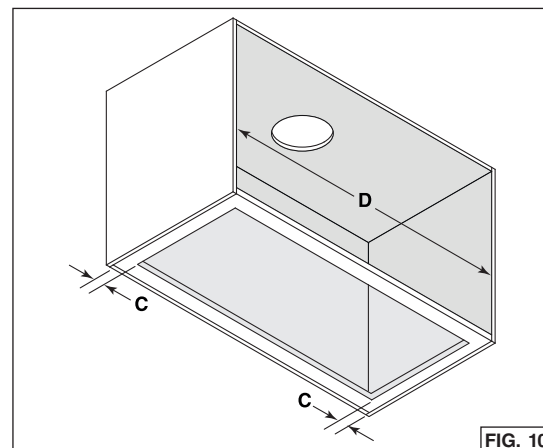

FIG. 10
3. Measure the remaining material of the cabinet bottom sides (C) (FIG. 10), if it is 1/4" or more, there is no need to use the cabinet brackets. Go to step 8 on page 10.
4. When there is less than 1/4" remaining material (C), carefully remove those strips. Measure the cabinet inner width (D) (FIG. 10). Refer to the table below to see which cabinet bracket edge configuration must be used.